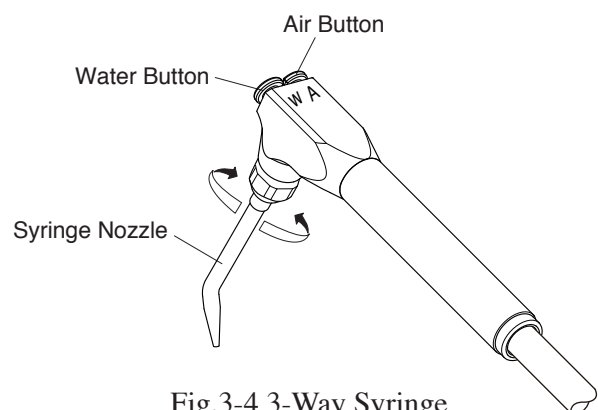

Fig.3-4 3-Way Syringe
2. 3-WAY SYRINGE (Fig.3-4 & 3-9)